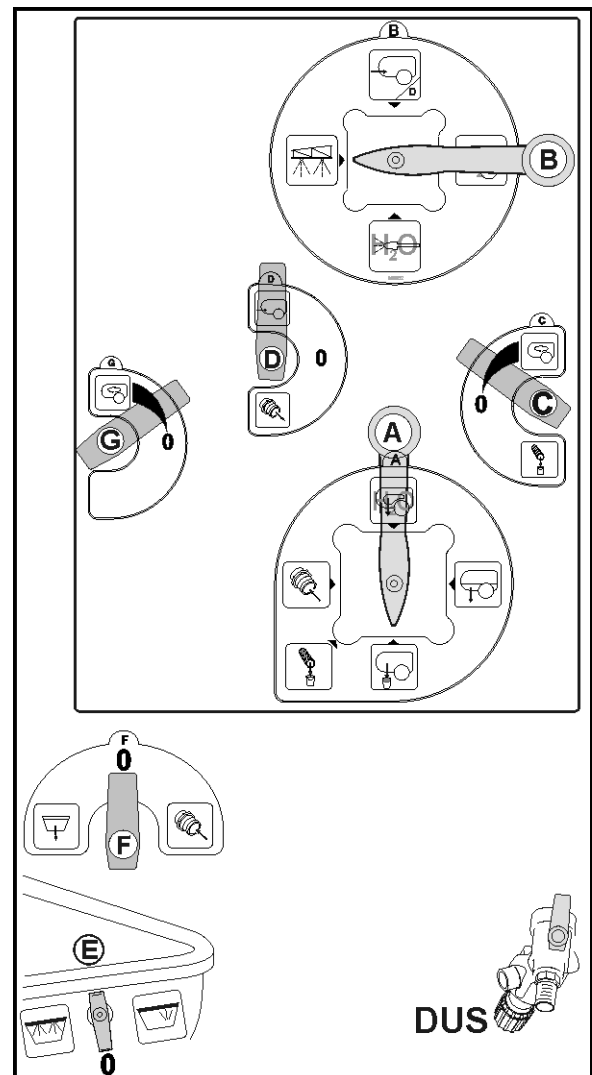

Fig. 134
Clean the suction filter (Fig. 134) on a daily basis after cleaning the field sprayer.
1. Unscrew the cover of the suction filter (Fig. 134/2).
2. Remove the cover with suction filter (Fig. 134/3) and clean with water.
6. Loosen cover plate on the suction filter (Fig. 134/1).
7. Activate relief valve on the suction filter (Fig. 134/2).
8. Remove cover plate and suction filter (Fig. 134/3) and clean with water.